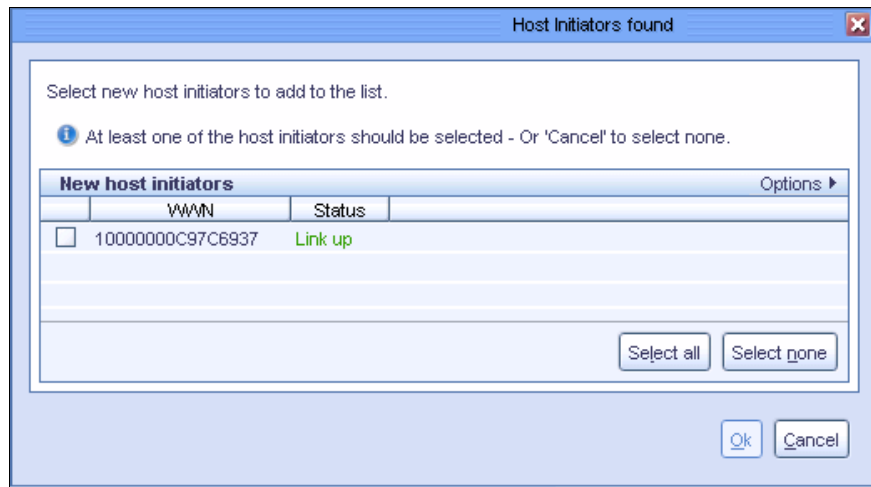

Figure 6-12 Host Initiators found window
6. If the zoning has been done correctly, the available Host Adapters WWPN appears after it has rescanned the ports, as shown in Figure 6-12. Alternatively, you can add the Host Adapters WWPN manually by clicking **Add** and entering the WWPN manually.